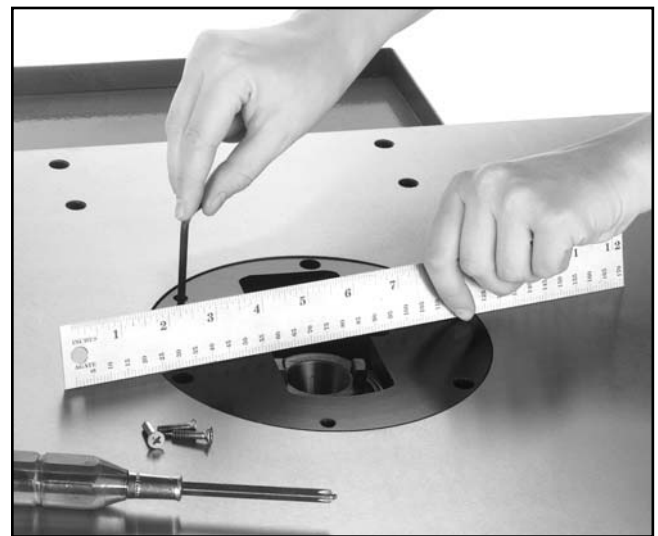

Figure 31. Leveling table insert (guard removed for clarity).
2. By using a straightedge and a screwdriver, turn the barrel screws clockwise or counter-clockwise to level the cast iron insert with the top surface of the table as shown in **Figure 31**.